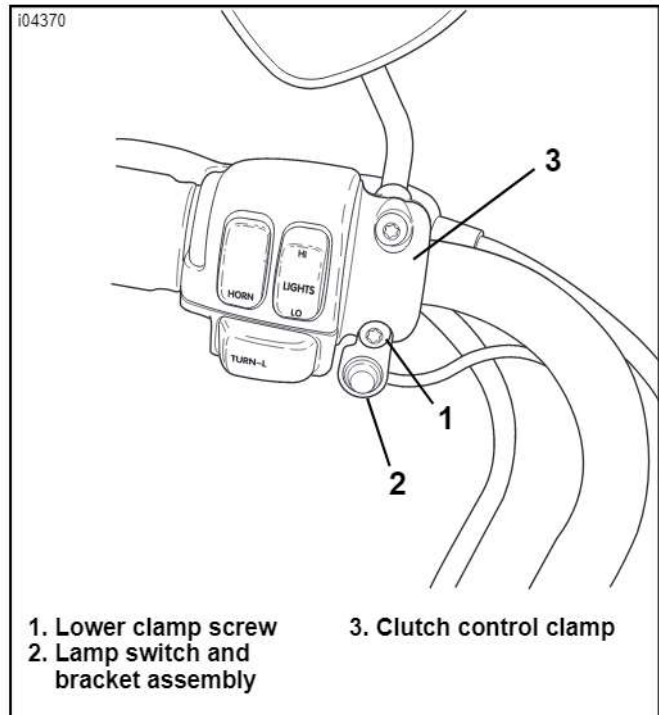

Figure 5. Install the Lamp Switch on the Clutch Control Clamp
9. See Figure 5. Remove the lower screw (1) and washer from the clutch control clamp (3), and install the lamp switch and bracket assembly (2). Install the screw and washer and tighten to 60–80 **in-lbs** (7–9 Nm).